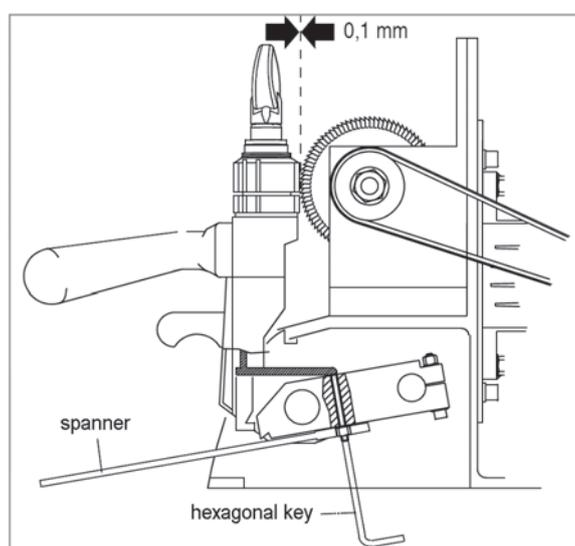

Fig. 46
- 1) Release the carriage, raise against the cutting tool and take to the end of its run (Fig. 46).
- 3) Release the nut with the spanner (Fig. 46)